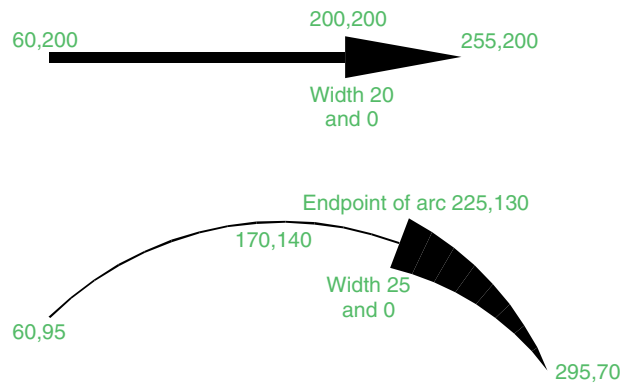

Fig. 2.37 Exercise 9
9. With the **Polyline** tool construct the arrows shown in Fig. 2.37.